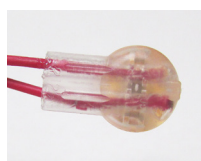

Figure 65: Wires in gel cap
- Insert the wires from each cable end as far as possible into the gel cap. See Figure 65: Wires in gel cap.